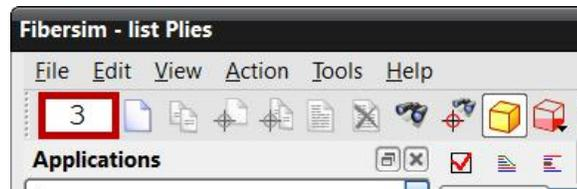

Figure 5–34
3. Press <Ctrl> + <T> to switch the ply form to the table view and select the *Net Geometry* tab. The form should display as shown in Figure 5–35.